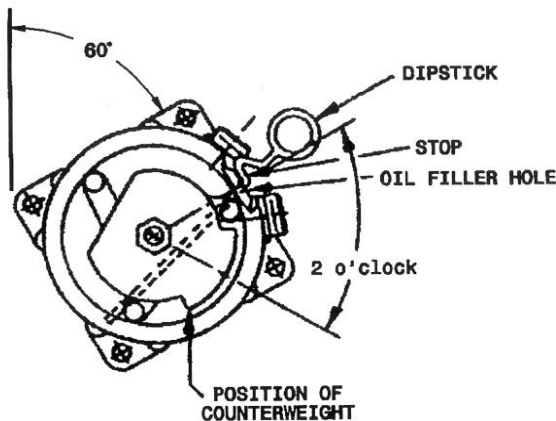

Figure 1
- b) Remove oil filler plug. Using a socket wrench on the armature retaining nut, turn the shaft clockwise until the counterweight is centered on the 2 o'clock position as shown in Figure 1.
NOTE: If compressor is not mounted in windrower, measurement must be taken with compressor level and rotated 60° as shown in Figure 1.